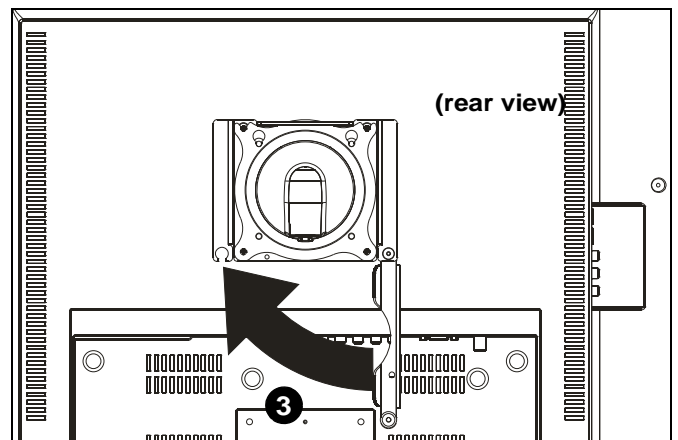

Figure 4
3. Move bracket flag to closed position. (See Figure 4)